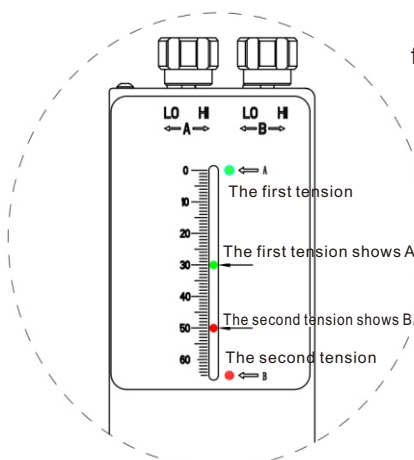

figure6
Step 3.Without supplying air to the cylinder, the tension is controlled by adjusting the "swing arm bottom limit knob" to tune the angle of "swing arm stopper" to change the working length of tension spring.A clockwise turning of knob decrease the tension value, while anticlockwise turning to increase it.With connecting the air pressure supply, tension can be controlled through the air valve of winding machine to adjust the swing arm. The swing arm moves to anticlockwise position as the figure shown to switch between two steps of tension values (The swing arm bottom limit knob's control is invalid at this working mode).The swing degree of swing arm is related to the "swing arm upper limit knob". A clockwise turning of knob decrease the swing degree, as well as the tension value while anticlockwise turning to increase it.B-A scale difference must be greater than 20, otherwise the boom can not swing(see figure6).